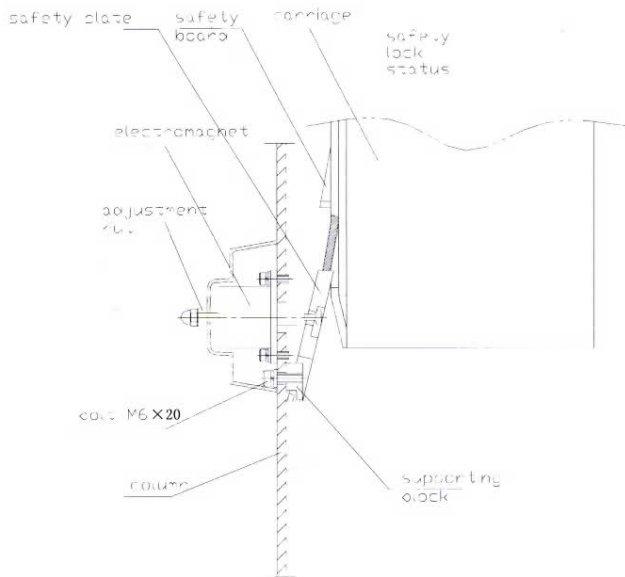
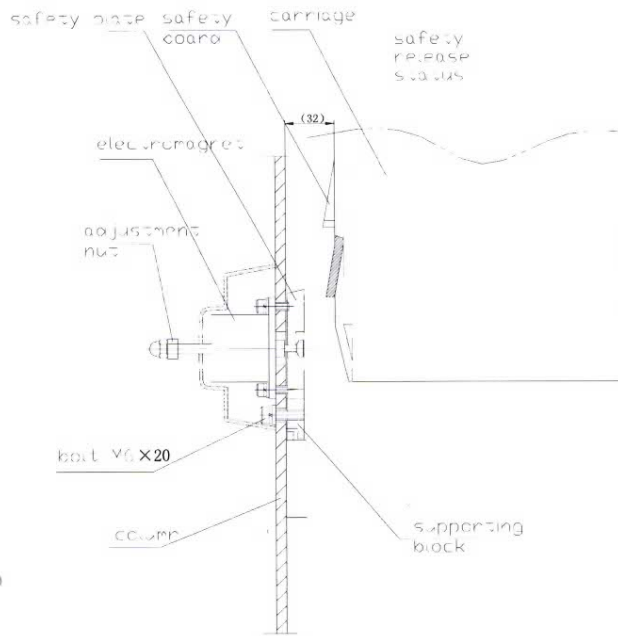

Fig. 3
Fig. 4
- Working principle of electromagnet safety mechanism: When the electromagnet is not actuated, the upper end of safety plate always attaches to the safety orifice closely. When the carriage rises, the safety orifice utilizes its inclined angle to push away the safety plate and rises progressively. In case of failure during the moving of the carriage, the rapid falling will occur, then the safety plate will block into the safety orifice, preventing the falling of the carriage (Fig. 3). When the electromagnet is actuated, the safety plate is released for carriage lowering (Fig. 4).